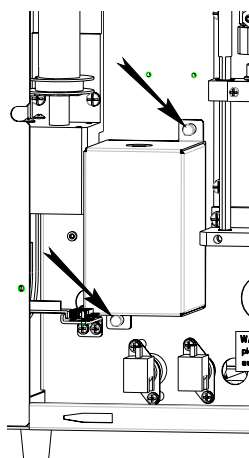

Figure 8-11 Shielding box
- Follow the arrow shown in Figure 8-11 to push and remove the right plate.
- Remove the screws fixing the shielding box of the bath, as Figure 8-11 shows.